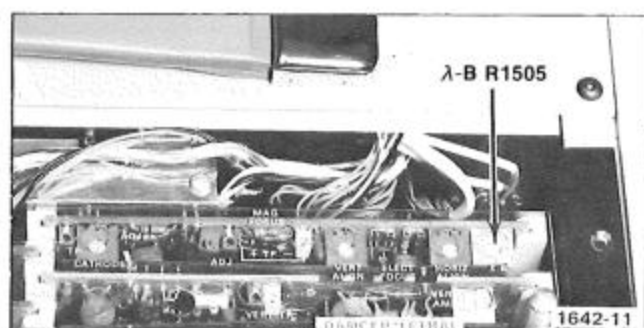

Fig. 5-6. Location of λ -B adjustment.
i. ADJUST— λ -B R1505 (see Fig. 5-6) on the Vidicon Regulator Board for a marker wavelength readout of exactly 1014 nm.